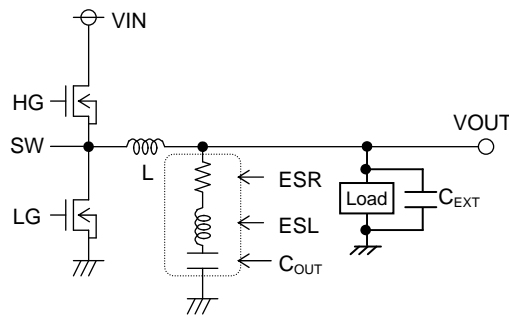

Figure 26. Output Capacitor
Also, give consideration to the conditions in formula (6) below for output capacitance, bearing in mind that output rise time must be established within the fixed soft start time. As output capacitance, bypass capacitor will be also connected to output load side (CEXT, Figure 26). Please set the over current detection value with regards to these capacitance.